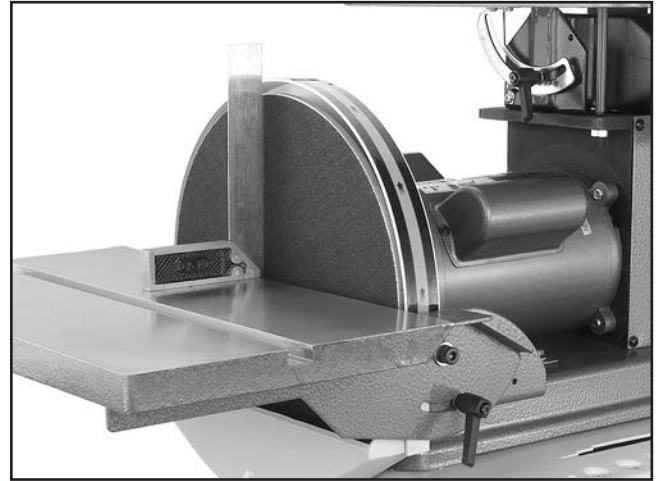

Figure 12. Squaring the disc sanding table.
2. Using a machinist's square, set one edge on the table surface and the other against the face of the sanding disc, as shown in **Figure 12**.